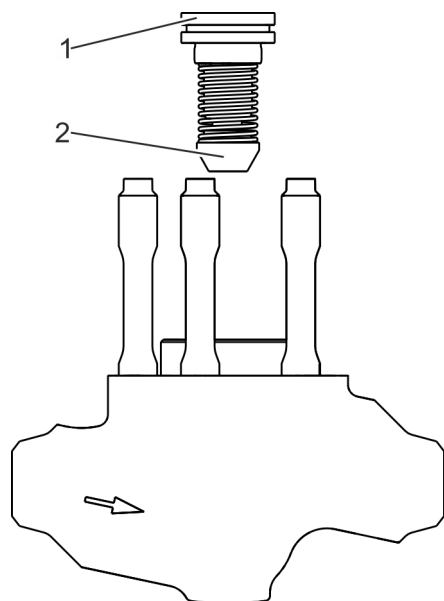

Fig. 7: Removing the shut-off element
4. ➤ Remove the guide bushing (Fig. 7/1) with inserted check valve disc (Fig. 7/2) upward and out of the body.